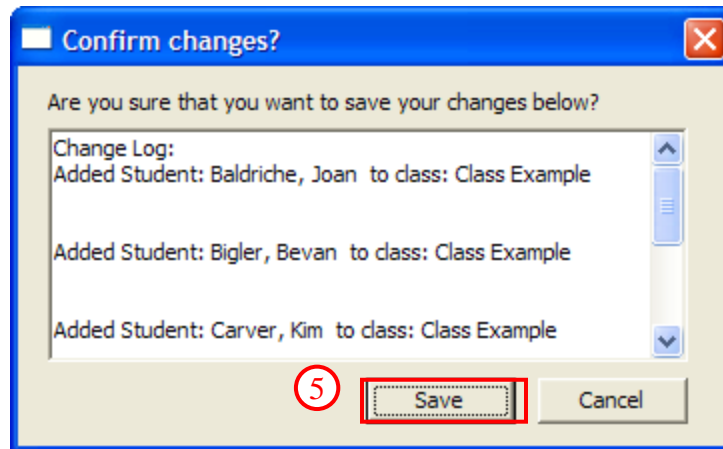

Figure 81. Classes - Confirm Changes Dialog
5. A prompt is displayed detailing the addition/changes (Figure 81). Click the [SAVE] button to confirm.